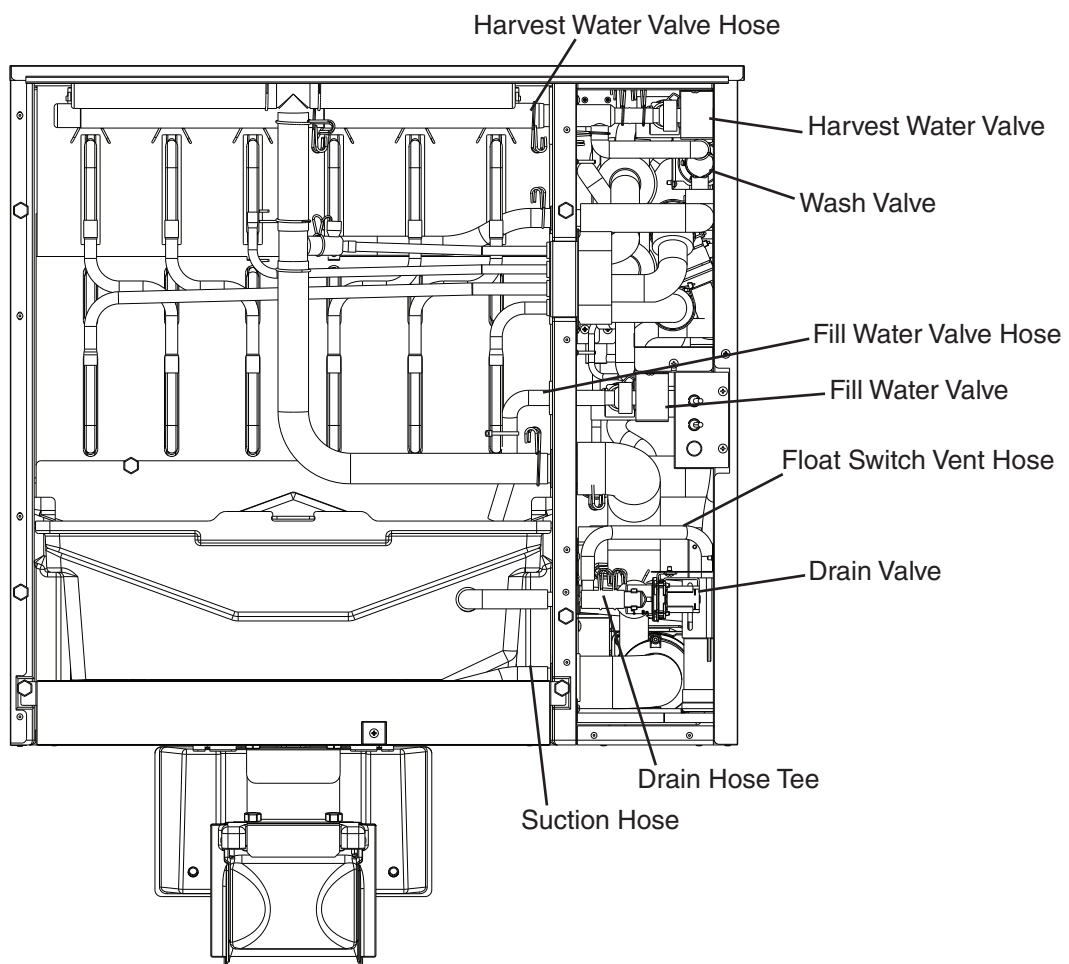

Fig. 21
- 7) Disconnect the harvest water valve hose in the evaporator section and blow out the water line to the harvest water valve using compressed air or carbon dioxide. See Fig. 21. This will clear water from the harvest water valve.